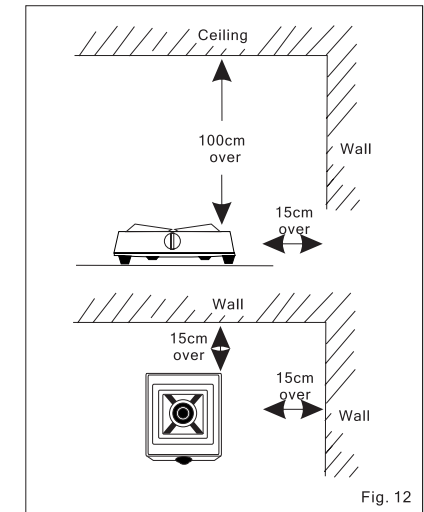

Fig. 12
7. When choosing a place to put the gas cooker,be sure to pick a spot that is firm and level.The gas cooker need plenty of space and air. Allow at least 15cm of space on the sides and 100cm above the unit. (Fig.12) if the space is less than 15cm from the in-flammable walls, be sure to provide a heat insulation board. Also be sure to keep paper, oil, and all other inflammable objects away from the gas cooker.